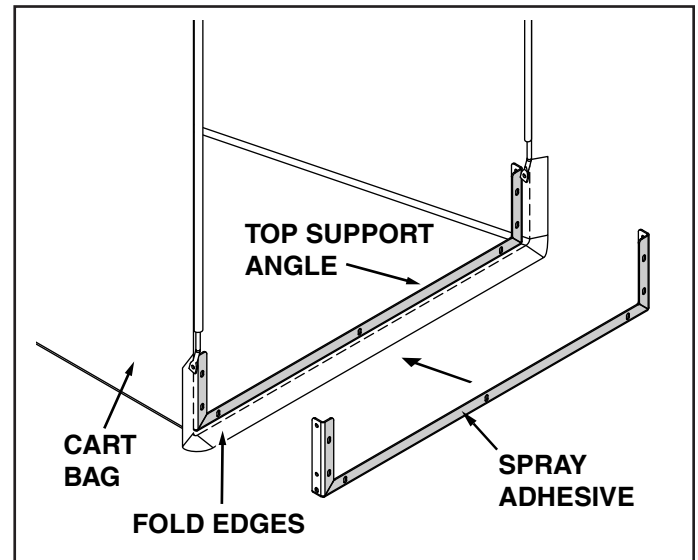

FIGURE 22
- Apply spray adhesive to the side of the top support angle shown in grey. Follow directions on spray adhesive for proper application. See figure 22.
- Once the spray adhesive is tacky to touch, place top support angle inside of cart cover and fold the edges of the cover onto side of support angle with spray adhesive. See figure 22.